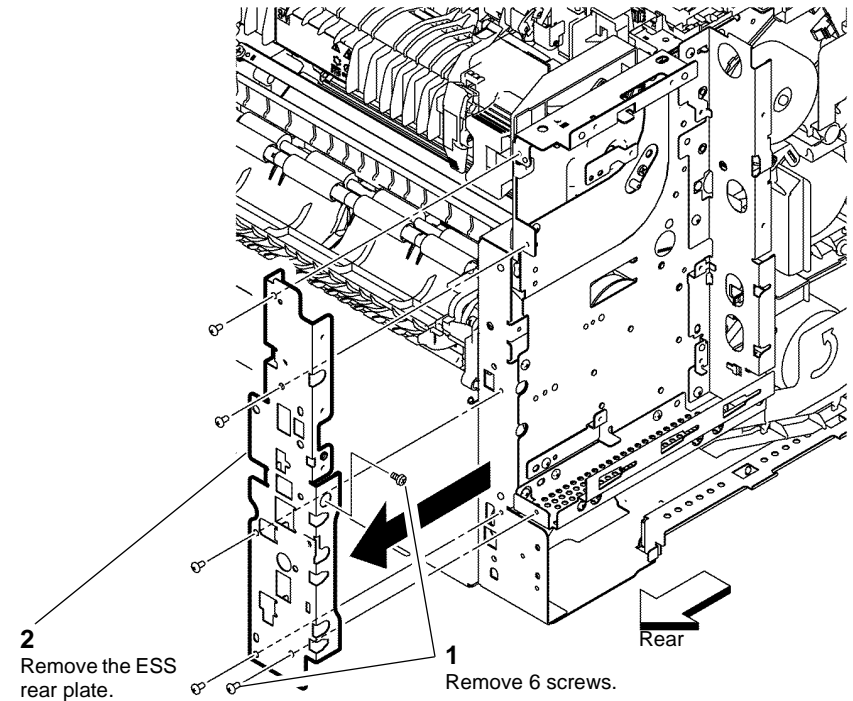

Figure 1 ESS rear plate
6. C400 devices only, remove the ESS rear plate, **Figure 1**.